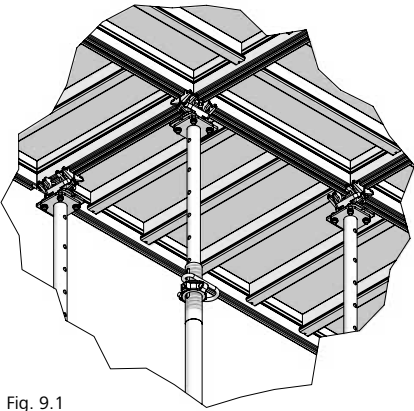

Fig. 9.1
- at the point of intersection of four MD panels, ① (Figures 9.1 and 9.2)
- at the cross stiffener in the corner area, ③ (Figures 9.1 and 9.2)